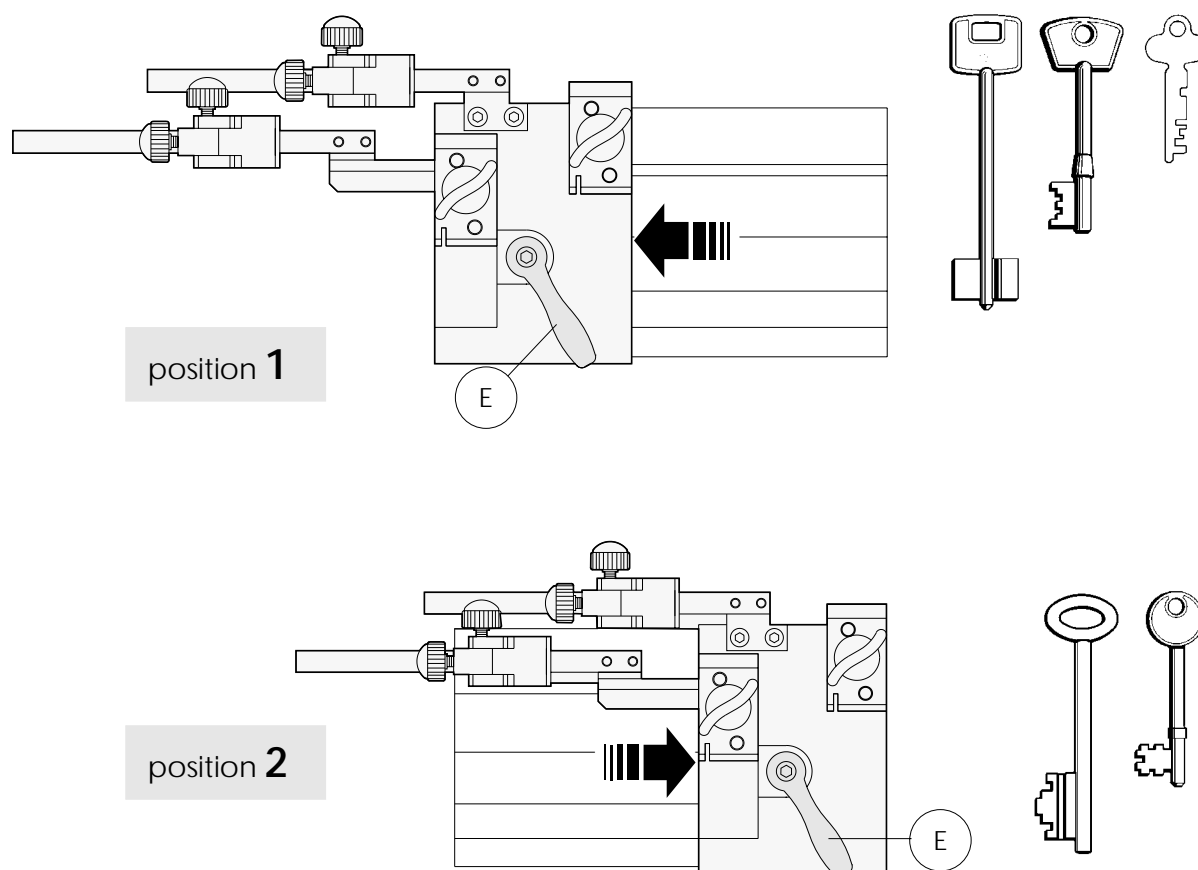

Fig. 12
Position the main carriage on the left hand side (position 1 - fig. 12 on page 13) to install the setting tools (X) into the jaws.
To calibrate the ward cutter, position the carriage on the right hand side (position 2 - fig. 12).
Position the main carriage on the left hand side (position 1 - fig. 12 on page 13) and install the setting tools (X) into the jaws.
Position the main carriage on the left hand side (pos.1 - fig. 12) to install the setting tools (X) into the jaws.
- 1) position the main carriage on the left hand side (pos. 1 - fig. 12) and rotate the jaws 180°.
- 2) install the keys using the tip stops (J) in the slot located on the right hand side of the jaw.
- 3) lower the motor carriage using the lever (G1) until the original bit is aligned with the center mark on the tracer and lock using knob (H).
- 4) proceed to duplicate the key using lever (F).
Install the keys and position the main carriage on the right hand side (position 2 - fig. 12).